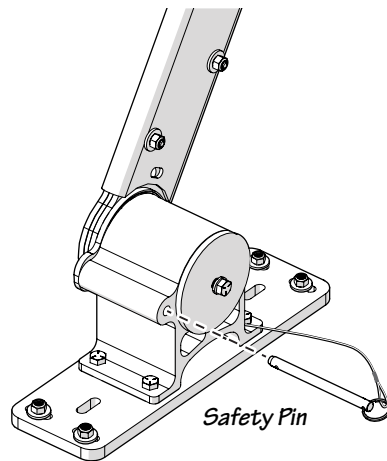

Fig. 9-1
- Insert the safety pin into the pin locking housing as shown in Figure 9-1.